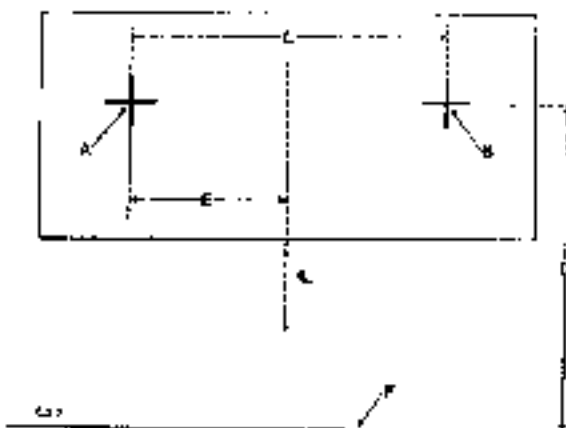

Fig 46 Headlamp setting board dimensions
- 1 Mark on the board the dimensions given in Fig 46 and position the vehicle, unladen, on level ground.